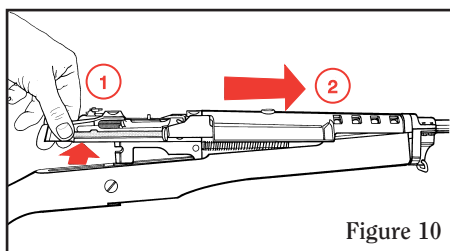

Figure 10
5. Remove barrel/receiver assembly from stock by swinging rear end away from action slightly, then pull stock out of engagement with gas block (See Fig. 10).